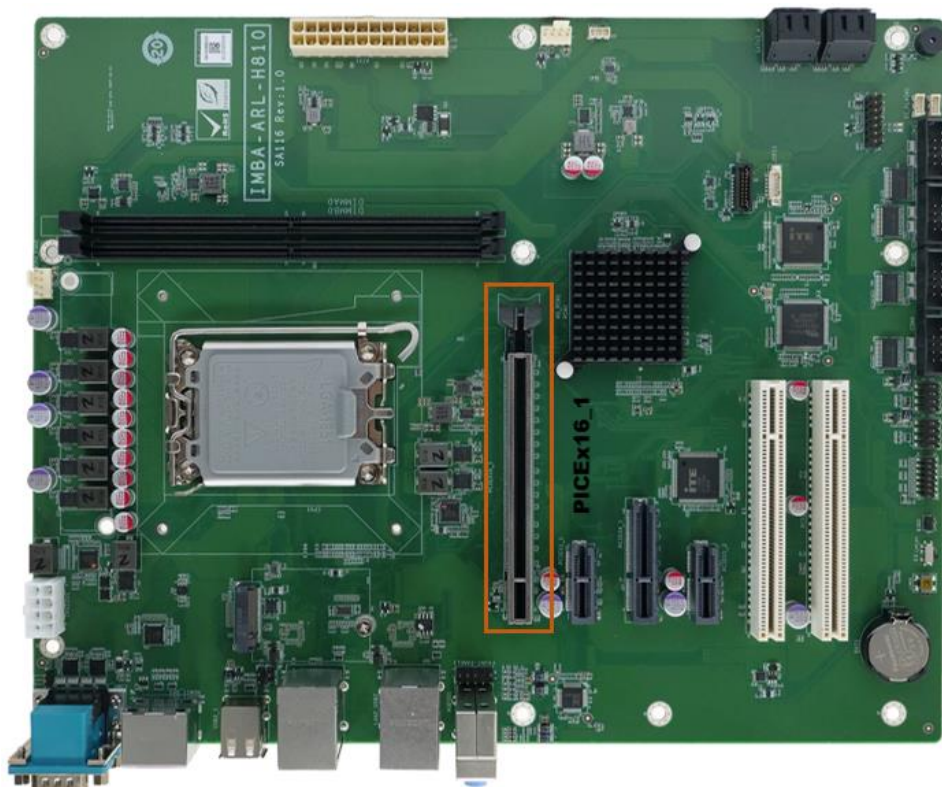

Figure 3-26: PCIe x16 Slot Locations
- CN Location:** See **Figure 3-26:** PCIe x16 Slot Locations